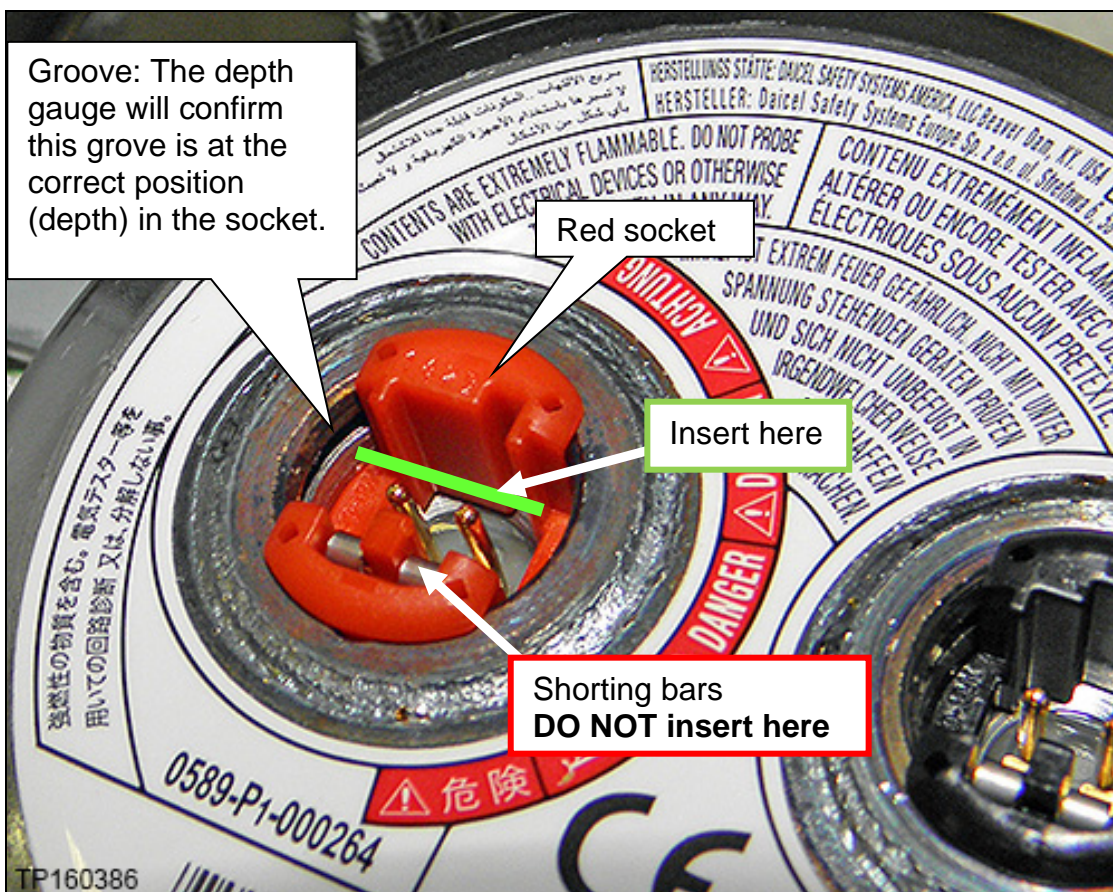

Figure 2
- a. Insert the depth gauge into the red socket shown in Figure 2 between the terminal pins and collar.